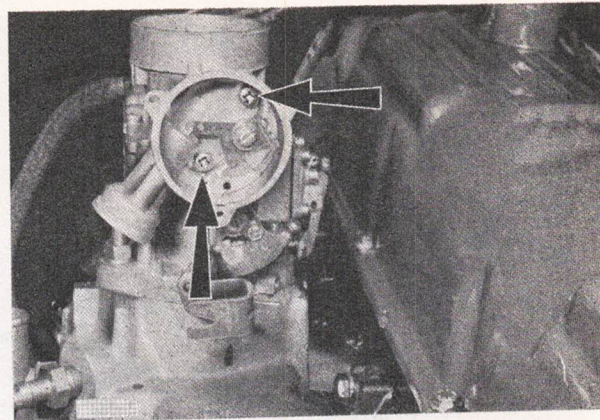

Fig. 27. Choke housing securing screws.
3. Remove two screws securing auto-choke body to carburettor, Fig. 27.